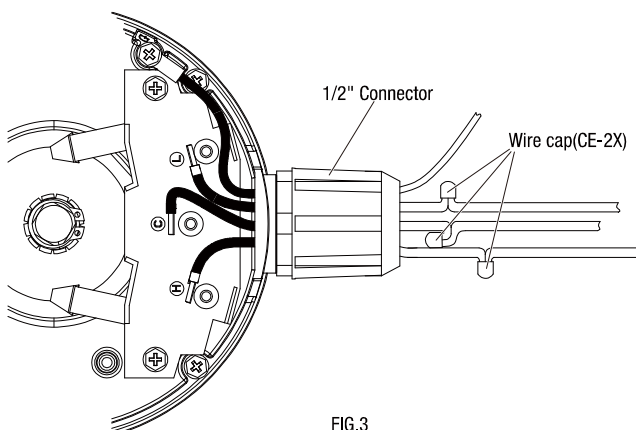

FIG.3
- ☐ Install 1/2" connector to rear end cover. Install ground wire to ground rod. using multi-function crimping pliers to connect three wires with three wire caps. (FIG.3)